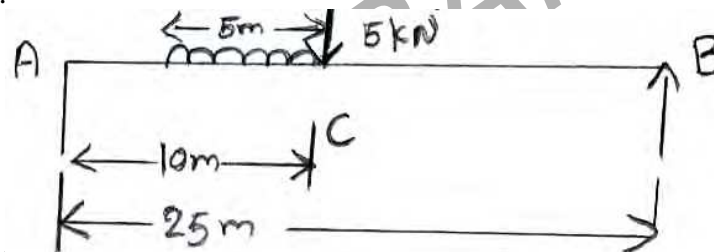

Figure 8
8. A simply supported girder has a span of 25m as shown in figure 8. Draw the influence line for shearing force at a section 10m from one end, and using the diagram determine the maximum shearing force due to the passage of a knife-edge load of 5 kN, followed immediately by a uniformly distributed load of 2.4 kN per meter extending over a length of 5m. The loads may cross in either direction. [16]